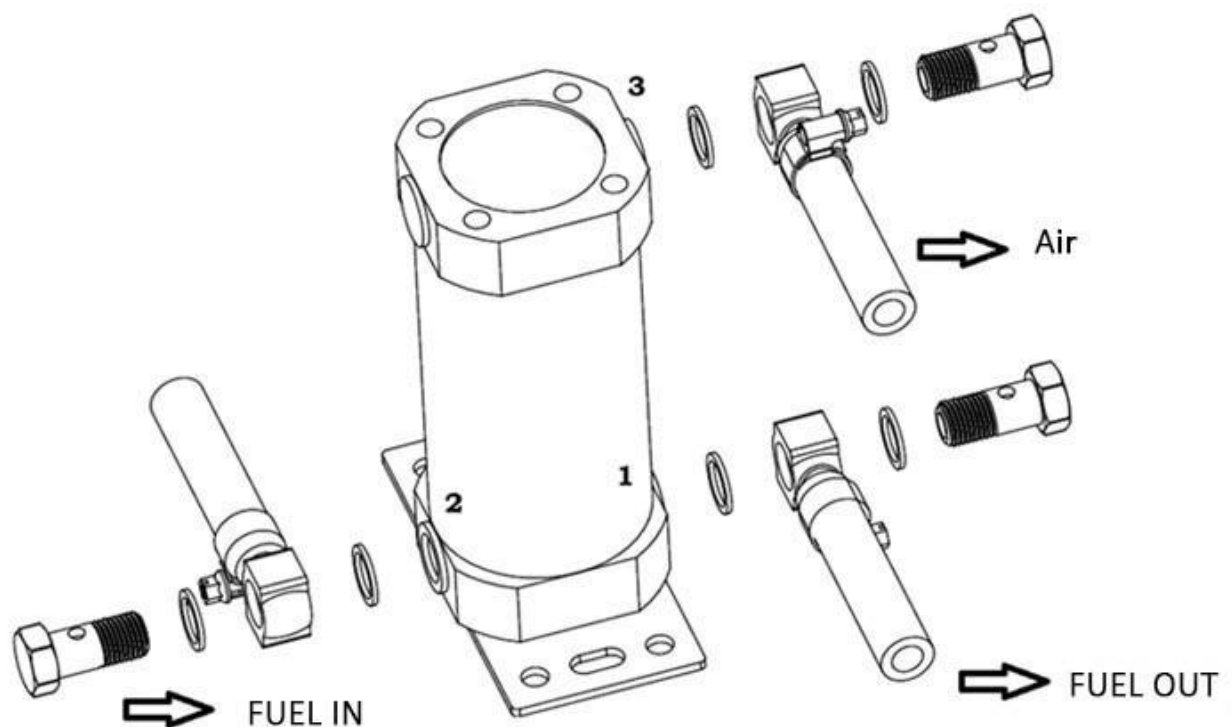

fig. 4.18. Deaerator installation
- 2) Connect the outlet of the engine return line to the deaerator inlet, and the purified fuel will be delivered to the flowmeter inlet (fig. 4.18).